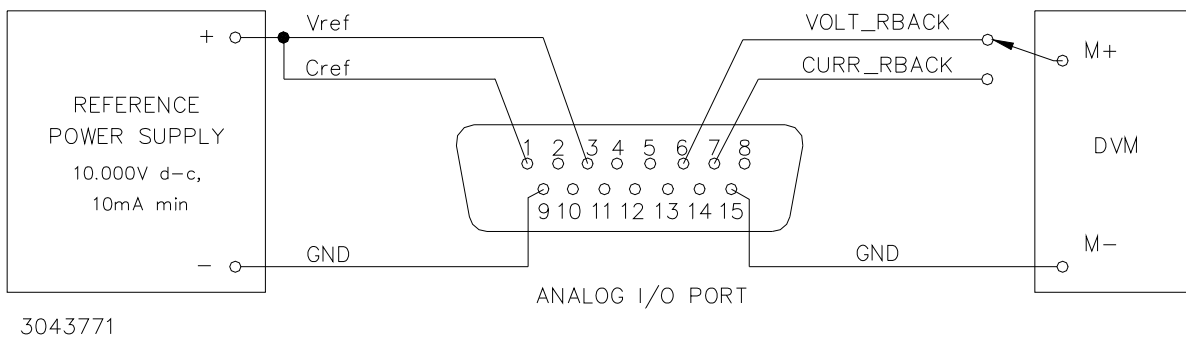

FIGURE 4-1. ANALOG PORT WIRING FOR CALIBRATION
5. Configure the mating I/O connector (provided with unit) to access the input programming signals (Vref and Cref) and output readback signals (VOLT_RBACK and CURR_RBACK) as shown in Figure 4-1. Note that the wires to Vref and Cref should be tightly twisted with the corresponding GND wire and kept as short as possible. Then connect the I/O mating connector to the Analog I/O port of the power supply.
3. Tap the **DC OUTPUT** switch to accept the value; the status display now reads **OUTV**. At the ANALOG I/O PORT J2, connect the DVM to VOLT_RBACK and GND as shown in Figure 4-1. Rotate the **VOLTAGE** control to increase or decrease the output voltage until the DVM reads as close as possible to 10V.
5. Tap the **DC OUTPUT** switch to accept the value; the status display now reads **OUTC**. At the ANALOG I/O PORT J2, connect the DVM to CURR_RBACK and GND as shown in Figure 4-1. Rotate the **CURRENT** control to increase or decrease the output voltage until the DVM reads as close as possible to 10V.
9. If password is correct, the status display on the VXI main panel reads CAL and the buttons on Calibration Screen (Figure 4-1) are enabled (highlighted). If the password is incorrect, the password text box displays "WRONG #". Repeat step 7 to enter the correct password, or click the **Calibrate Close** button on the VXI main panel to exit calibration.
3. Click the **Press to ACCEPT** button to accept the value; the status display now reads **OUTV**. At the ANALOG I/O PORT J2, connect the DVM to VOLT_RBACK and GND as shown in Figure 4-1. Click the “+” button to increase and the “-” button to decrease the output voltage until the DVM reads as close as possible to 10V.
5. Click the **Press to ACCEPT** button to accept the value; the status display now reads **OUTC**. At the ANALOG I/O PORT J2, connect the DVM to CURR_RBACK and GND as shown in Figure 4-1. Click the “+” button to increase and the “-” to decrease the output current until the DVM reads as close as possible to 10V.